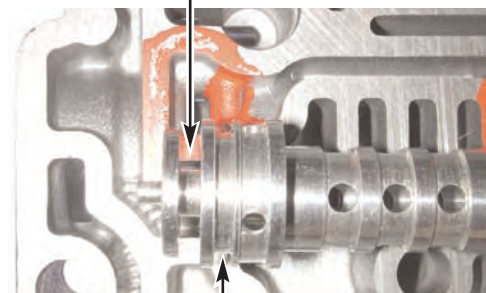

Figure 5
- 3.** Retain the sleeve with either the L pin or the long spring pin provided (see Figure 4). Retain the new end plug with either the OEM L pin or the short pin provided (see Figure 5). Both a spring pin and an L pin are supplied due to different tolerances in valve body castings. Use either retainer at the nub on the TCC sleeve, whichever holds or positions the sleeve accurately and securely. The end plug can be held with the original L pin or the short pin provided.